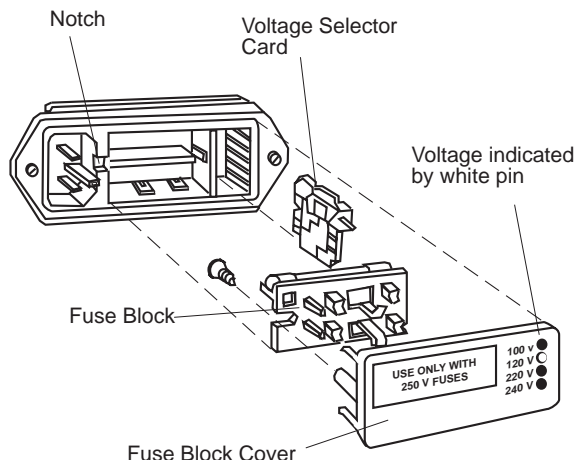

Figure 2-2 Fuse Block and Voltage Selector Card
2. Insert a small-blade screwdriver into the notch just to the right of the power cord connector and pry off the fuse block cover (Figure 2-2).